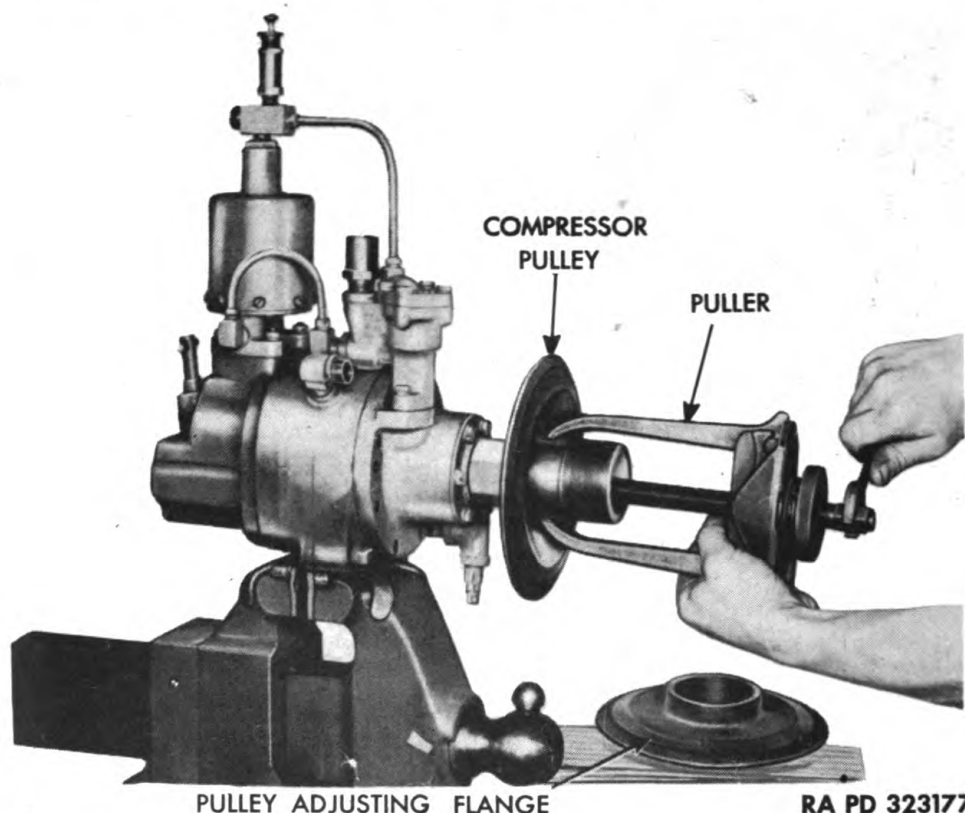

Figure 181 — Removing Compressor Pulley, Using Puller (41-P-2912)
(3) **REMOVE COMPRESSOR PULLEY (fig. 181).** Unscrew adjusting flange from pulley. Remove cotton pin, castellated nut, and washer